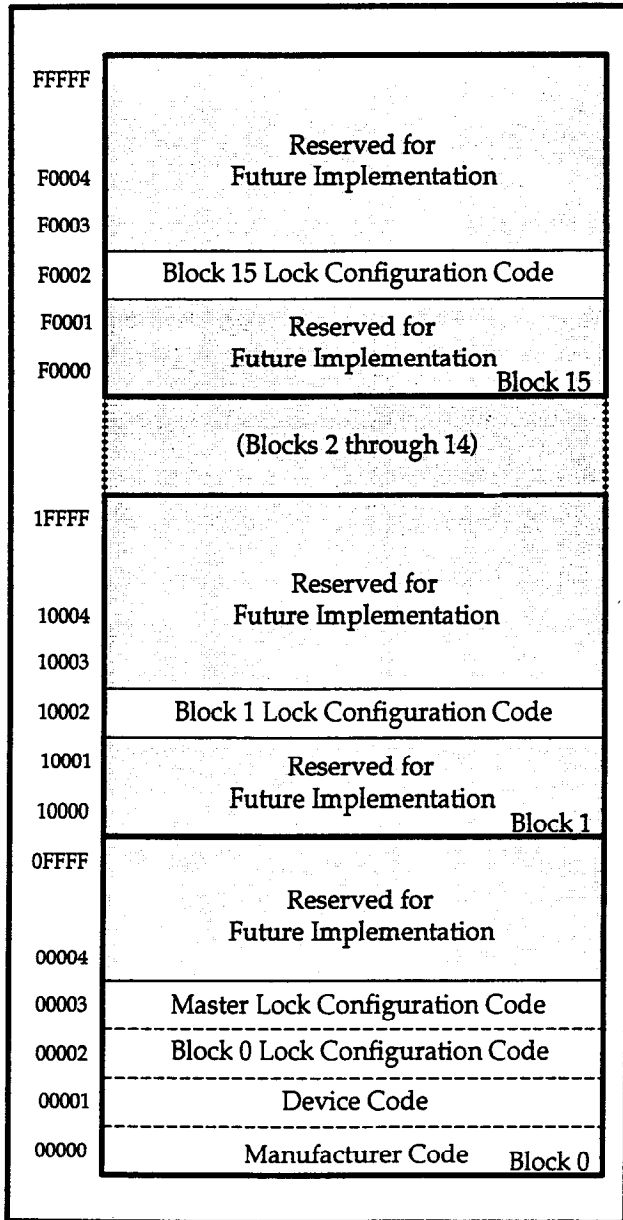

Figure 3. Device Identifier Code Memory Map
The read identifier codes operation outputs the manufacturer code, device code, block lock configuration codes for each block, and the master lock configuration code (see Figure 3). Using the manufacturer and device codes, the system CPU can automatically match the device with its proper algorithms. The block lock and master lock configuration codes identify locked and unlocked blocks and master lock-bit setting.
IA=Identifier Code Address: see Figure 3.
The identifier code operation is initiated by writing the Read Identifier Codes command. Following the command write, read cycles from addresses shown in Figure 3 retrieve the manufacturer, device, block lock configuration and master lock configuration codes (see Table 5 for identifier code values). To terminate the operation, write another valid command. Like the Read Array command, the Read Identifier Codes command functions independently of the  $V_{PP}$  voltage and  $\overline{RP}$  can be  $V_{IH}$  or  $V_{HH}$ . Following the Read Identifier Codes command, the following information can be read:
1. X selects the specific block lock configuration code to be read. See Figure 3 for the device identifier code memory map.